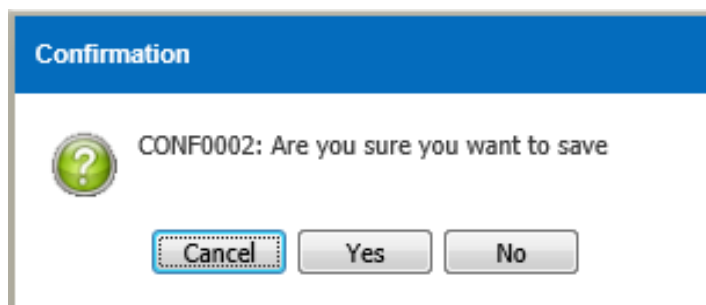

Figure 3.12.1-3 Confirmation Message
- Confirmation message as shown in Figure 3.12.1-3 will be displayed after user save the record
- Record will save when user click on the  button as shown in Figure 3.12.1-4